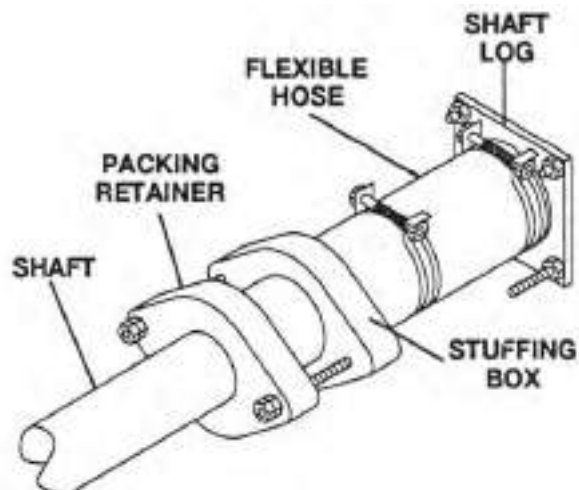

Figure 4-4 – Propeller Shaft Stuffing Box
- Check propeller shaft stuffing boxes. (See **Figure 4-4.**) A slight leak (one drop every 60 seconds) is normal.